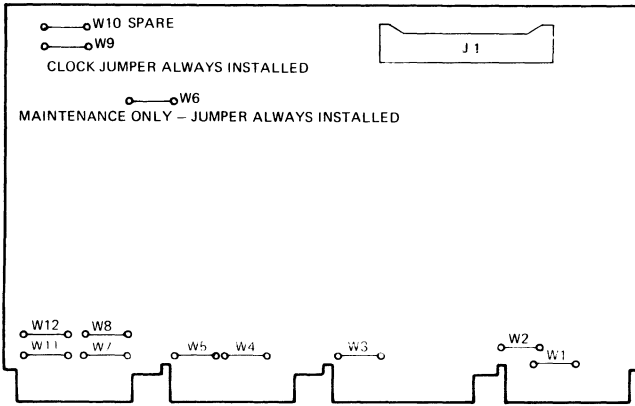

Figure 11-3 FPF11 Jumper Locations
3. To ensure proper bus grant continuity, configure the jumpers as indicated in Table 11-1. Refer to Figure 11-3 for the locations of the jumpers on the FPF11.